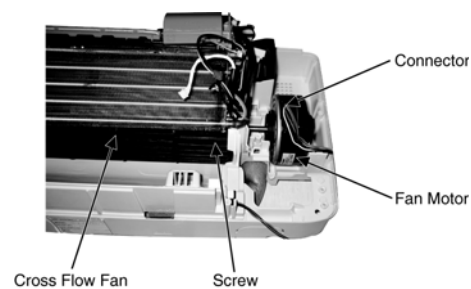

Fig. 10
- Remove the screw at the Cross Flow Fan (Fig. 10)
Reminder: To reinstall the Fan Motor, please adjust the connector location is positioned 90° with Fan Motor before fixing Control Board. (Fig. 10)